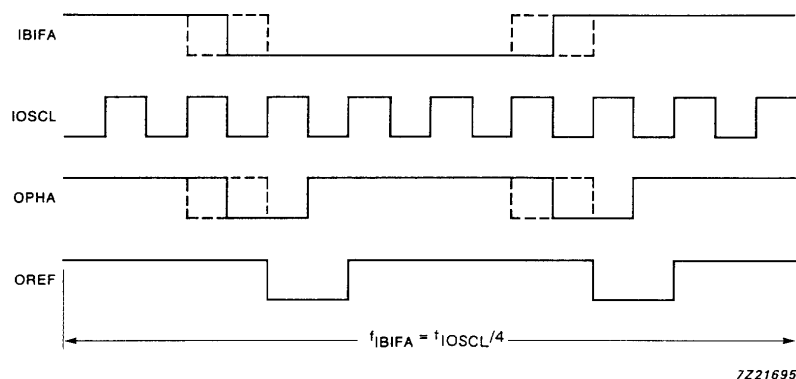

Fig.3 Generation of phase output signal (OPHA) and phase reference signal (OREF); $f_{IBIFA} = f_{IOSCI}/4$.
- Generates a phase output signal (OPHA) and a phase reference signal (OREF). If the frequency of the biphasic input signal (IBIFA) equals 1/4 of the system clock frequency ($f_{IOSCL}/4$) then the IC generates OPHA and OREF as shown in Fig.3.